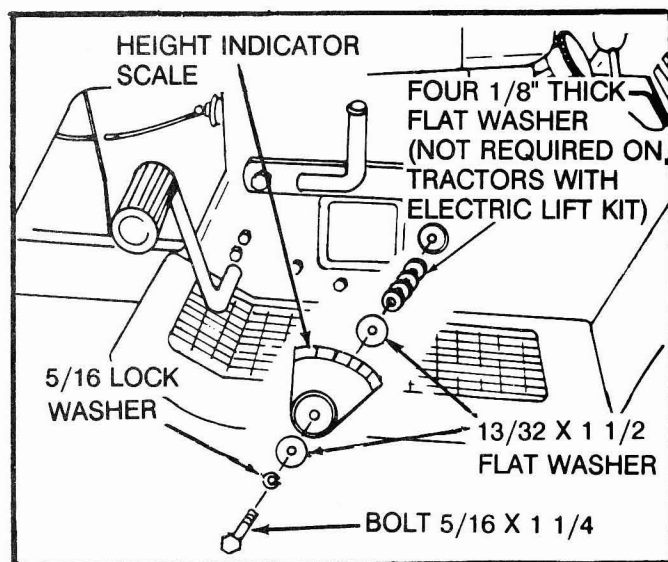

FIG. 6
- Place 5/16 x 1 1/4" hex bolt through 5/16 lock washer, one 11/32 x 1 1/2 flat washer, height indicator scale, one 11/32 x 1 1/2, four 1/8" thick washers and secure to tractor lift shaft. (See Fig. 6)